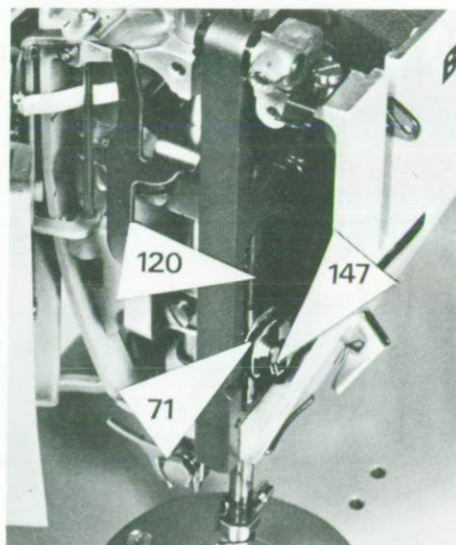

Fig. 30
Setting is made by releasing hex. screw (147) on the needle bar feed dog (71). The needle bar (120) can then be adjusted in height. After correct adjustment as described above, screw (147) should be re-tightened (Fig. 30).